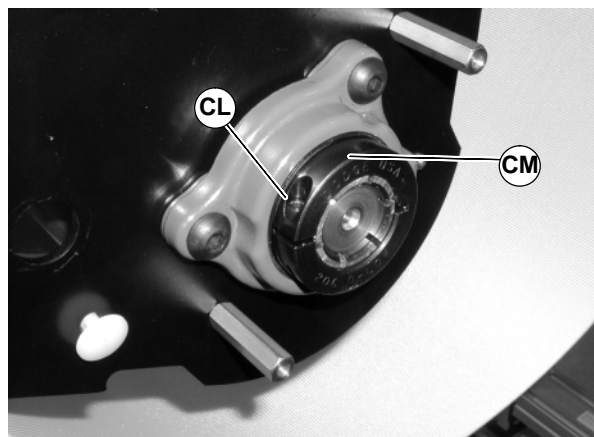

Figure 90
3. Loosen clamp screw (CL of Figure 90) and remove bearing collar (CM).
7. Reinstall bearing collar (CM of Figure 90). Tighten clamp screw (CL) to 95 in-lbs (11 N-m).